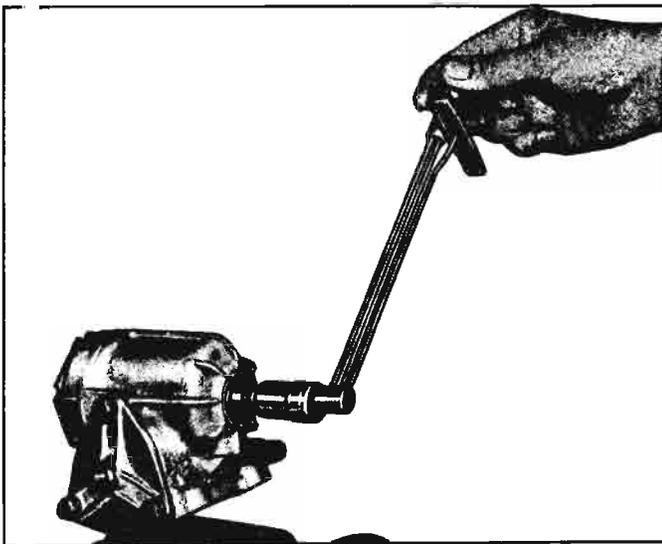

Fig. 4-20—Checking Worm Bearing Pre-Load
2. Using a suitable size socket and a low reading (inch-lb.) torque wrench on the worm shaft, carefully turn the wormshaft all the way in one direction and then back one turn (fig. 4-20).